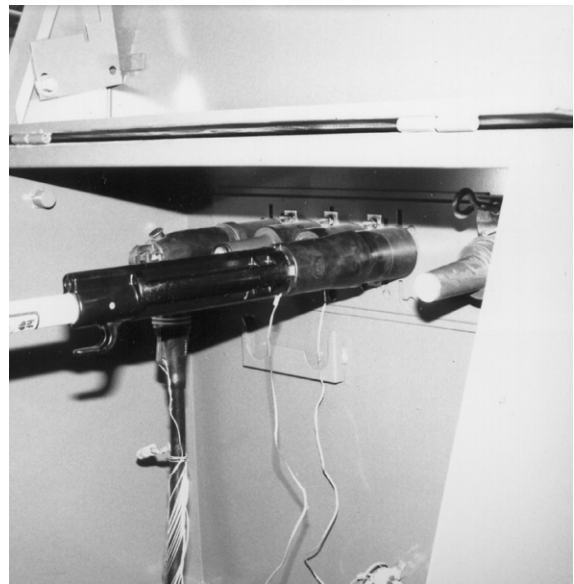

Figure 5. Twist cap clockwise to break surface friction
- Twist the clampstick clockwise to break any surface friction (Figure 5).